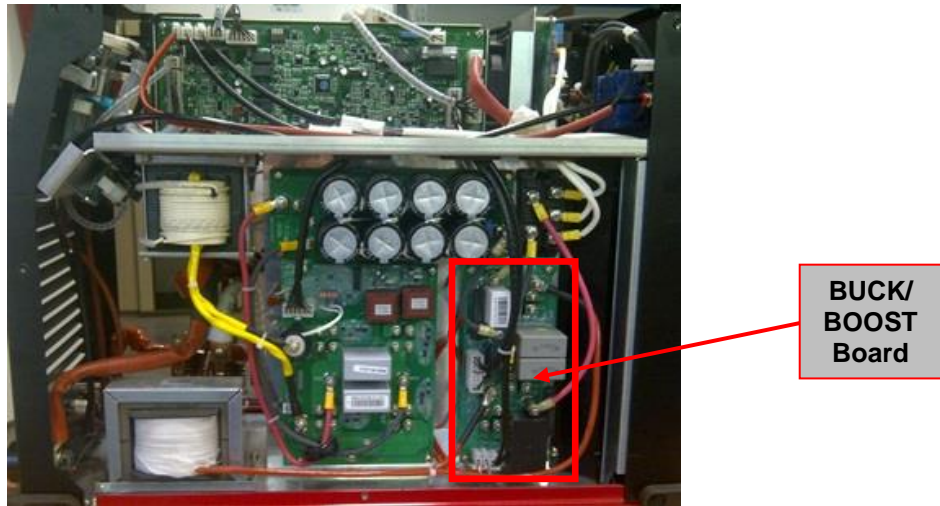

Figure 4 – W05X0982-1 & W05X0982-2 BUCK/BOOST Board location
3. Locate the Buck/Boost board on the right side of the machine. See **Figure 4**.